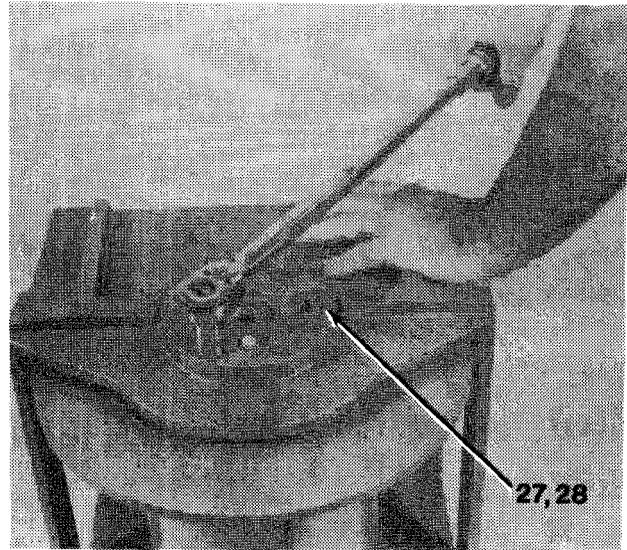

Figure 16-18
8. Install six lockwashers (28) and capscrews (27, Figure 16-18).